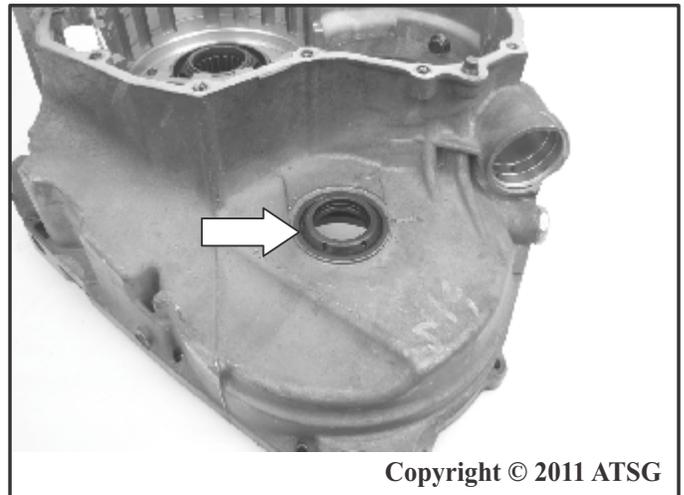

Figure 78
8. Using SST J 44809 or other adequate seal installer and a hammer, install a new automatic transmission axle seal as shown in Figure 78.